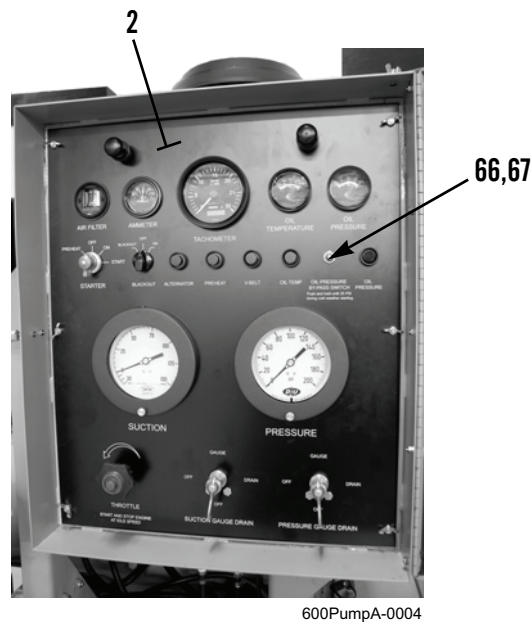

Figure 21. Oil Pressure Bypass Switch (Front of Panel).
2. Remove nut (Figure 21, Item 67) and oil pressure bypass switch (Figure 21, Item 66) from panel (Figure 21, Item 2).
1. Install oil pressure bypass switch (Figure 21, Item 66) and nut (Figure 21, Item 67) on panel (Figure 21, Item 2).